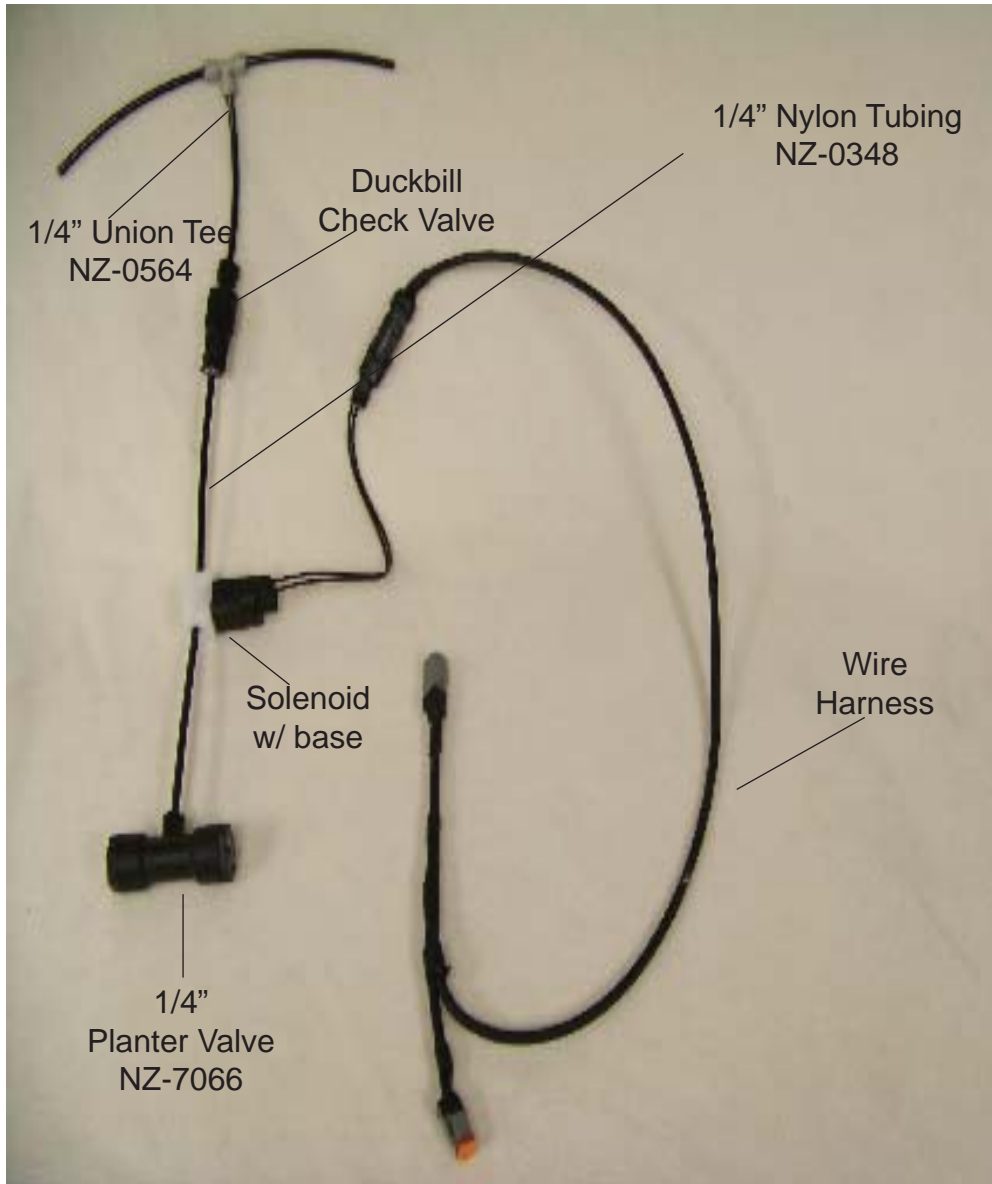

FIGURE 1 - Planter Valve Kit NZPVK-02E
3. To tee into the air supply line, cut the supply line with an appropriate tool, and insert the 1/4" Union Tee into the air supply line as shown in Figure 1. Using the quick connect fittings on the 1/4" Union Tee, push the 1/4" tubing firmly into the 1/4" Union Tee. This system requires an air source for the function of the planter valve. If no air is available on the planter, and external compressor may be necessary.